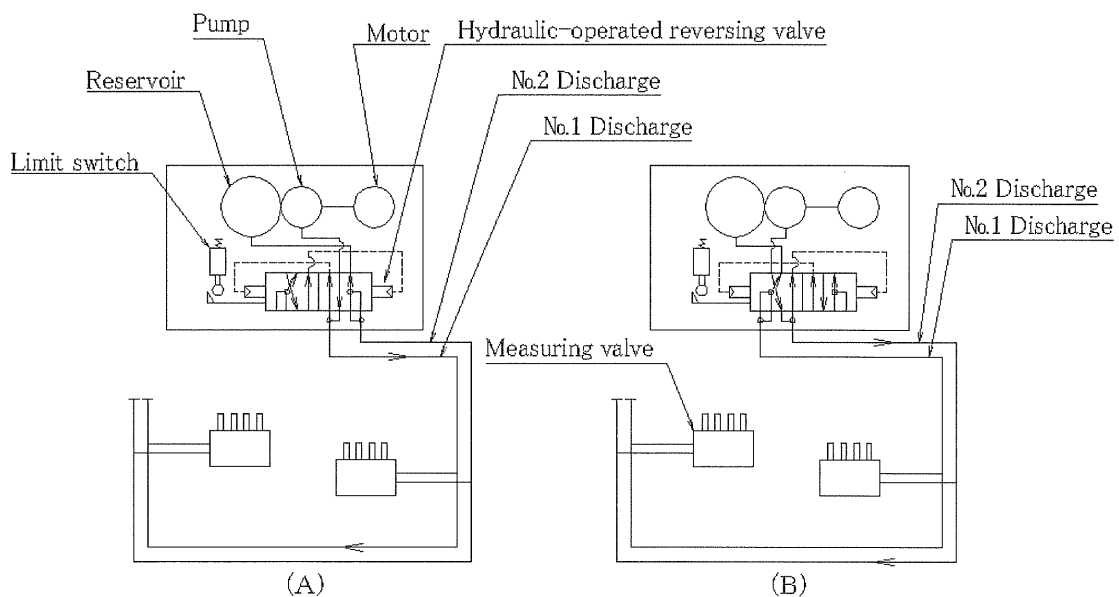

Fig.2 Lubricating circuit
This allows the lubricating system to from the circuit shown in Fig.2 (A) and (B) are alternately repeated until the lubricating operation is completed.